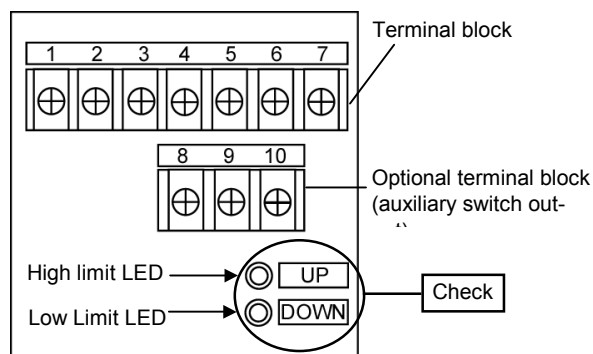

Figure 10 High/low limit LED
- Motorized operation: The high and low limit LEDs go ON at the fully open and fully closed positions. (Refer to Figure 10.)